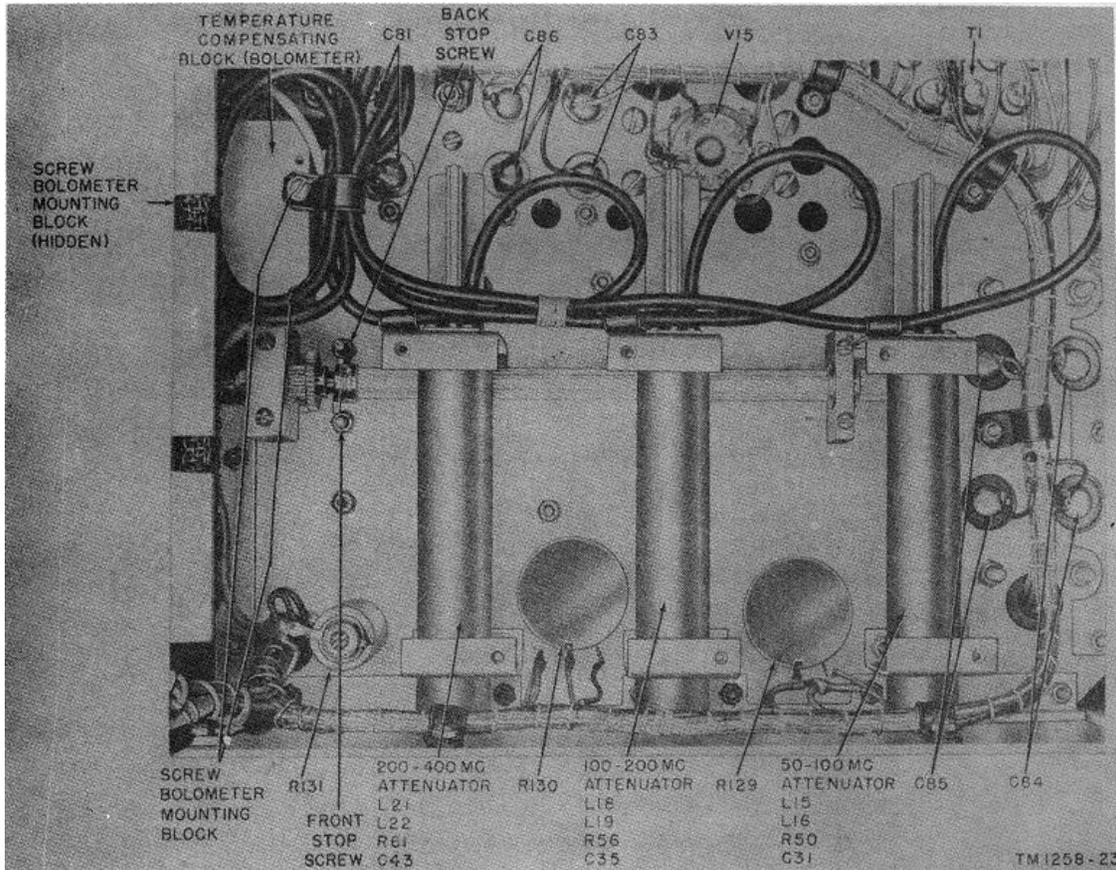

Figure 26. Signal generator, showing attenuators.
- (1) Secure the potentiometer to the mounting bracket with one nut and washer.
- (2) Solder the leads and secure the potentiometer mounting bracket to the oscillator subplate with two screws.
- (3) Replace the rf assembly as described in paragraph 61.
a. To remove any one of the three attenuators (figs. 26 and 27), proceed as follows:
- (4) Back off the front stop screw and the back stop screw, and back out the attenuator (fig. 26).
- (1) Slide the attenuators into their respective positions (fig. 26).
- (2) Turn the front stop screw to roughly midpoint. Adjust the front stop screw and slip the gears on the attenuators until the attenuator pick-up coils approach
- (3) Swing the assembly out of the way to permit access to the bolometer mounting block.
- (4) Remove the block bottom half by removing the three screws which hold it in place (fig. 26). Unsolder and replace the component.